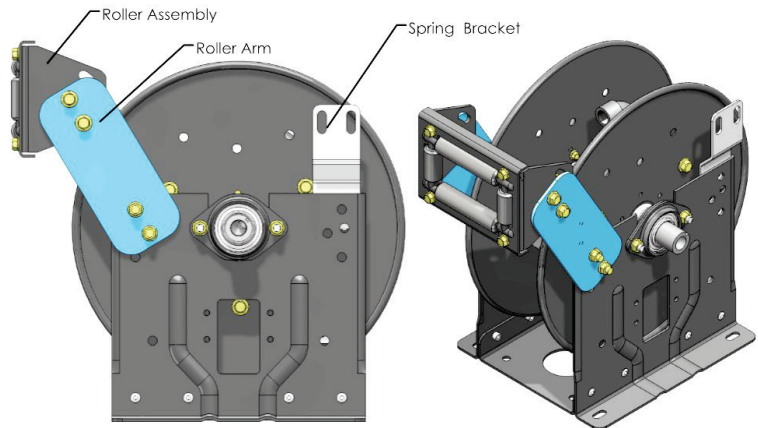

Figure 4 - Reel with Rollers in the “TR” Position
4. Move the Roller Arms to the “TR” position (Figure 4) on the back side of the reel. Align the holes and install the bolts.
5. Reposition the spring mounting bracket as shown in Figure 4, using two 3/8”-16 x 0.75 spinlock bolts and two 3/8”-16 spinlock nuts. The reel should look like Figure 4.